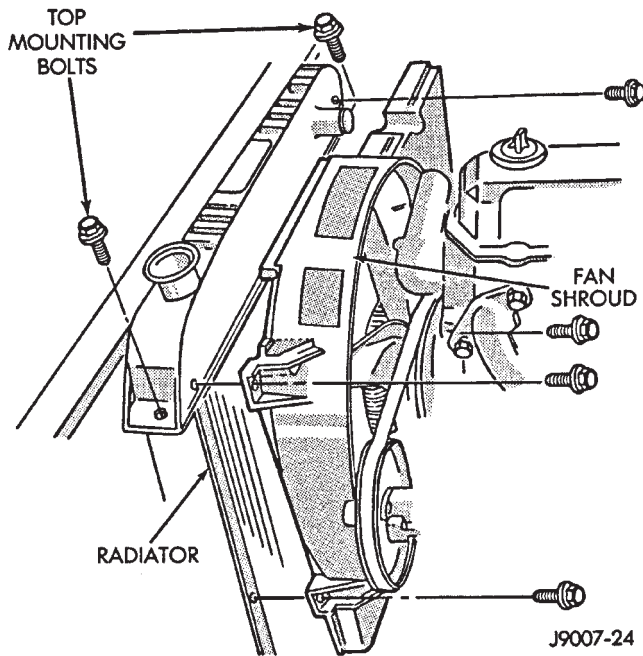

Fig. 28 Shroud Remove/Install—XJ Models With 2.5L Engine
- (6) Disconnect coolant reserve/overflow tank hose from radiator.
- (7) Remove radiator fan shroud mounting bolts (Fig. 28). Push shroud back against front of engine.
- (8) If equipped, disconnect and plug automatic transmission fluid cooler lines.
- (9) Remove radiator top mounting bolts (Fig. 28).